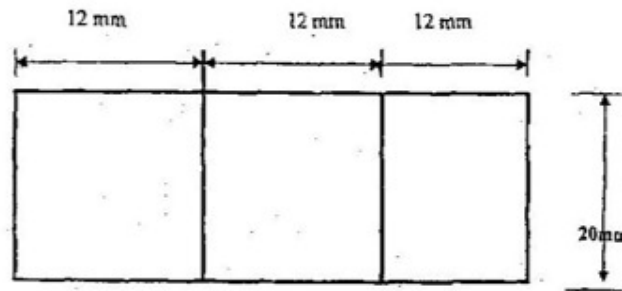

Fig. Q. 13 (a)
13. (a) Derive and obtain an expression for the cell twist when the section given in Fig. Q. 13 (a) is subject to a pure torque T . The shear modulus of the material used is ' G ' while the wall thickness ' t ' is the same throughout. (16)